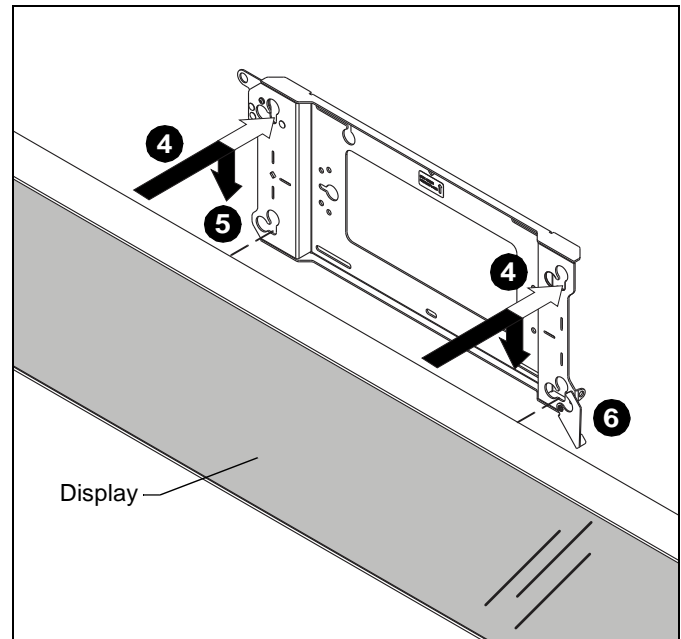

Figure 9
3. Align mounting buttons on display with teardrop mounting holes in mount. (See Figure 9)
4. Move display forward until recessed area of mounting buttons is positioned over lower area of teardrop mounting holes. (See Figure 9)
5. Lower display until recessed area of mounting buttons is seated in lower area of teardrop mounting holes. (See Figure 9)